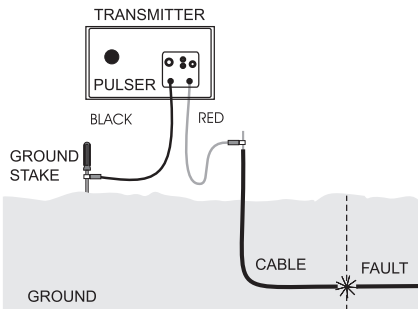

Figure 1. Transmitter Setup
2. With the transmitter off, connect the clip of the black transmitter lead to the ground stake. Insert the ground stake deeply into the earth. (See Figure 1.)